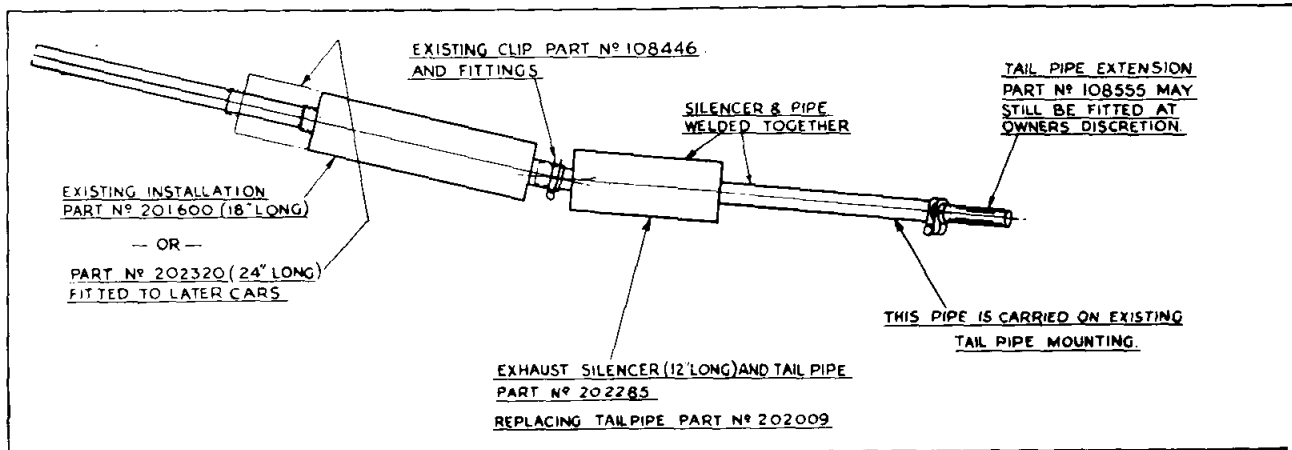

Fig. 2
Two types of silencers have been used in production, the former 18" silencer being changed for a 24" type at Commission No. TS.2532. A modified tail pipe incorporating a 12" silencer can be fitted, at the owner's discretion, to the shorter type silencer, if the exhaust note is considered too loud (see Fig. 2). This modified tail pipe fits into the main silencer and is attached with the existing clip.
- (c) If the tail pipe incorporating the small silencer is being fitted it is attached in a similar manner to the pipe and uses the existing clips. Fig. 2.